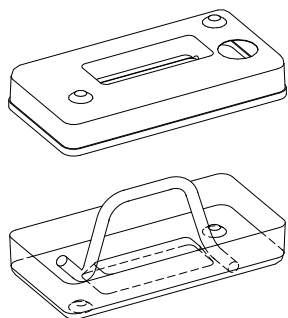

Figure 3-10.
1. Place the Ballast Block handle in the base section of the ballast weight. (This is the section without the filling hole.) This handle can stand upright by itself. Position top section of Ballast Block over base section, push down and snap into position. See Figure 3-10.